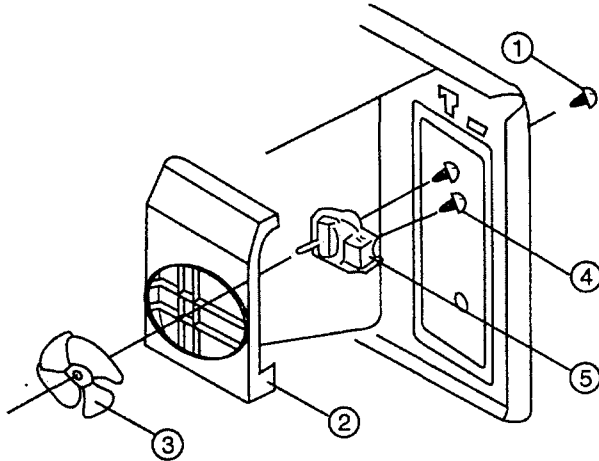

Figure 10
8. To remove fan motor assembly and air guide. (Figure 10)
- a. Remove screws ①.
- c. Remove fan blade ③.
- d. Remove two screws ④ holding the fan motor ⑤.
- e. Remove air guide ②.